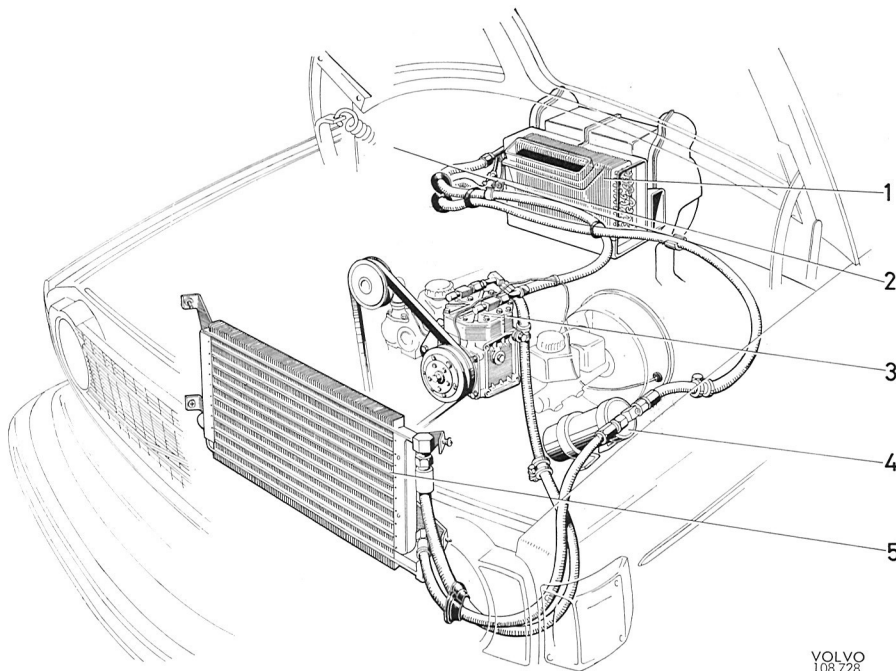

Fig. 8-47. Cooling system
The cooling system in the unit is of the compressor type, which means that the refrigerant is circulated by a compressor. The system is divided up into the following main components: condenser (5, Fig. 8-47), compressor (3), drier (4), thermostatic expansion valve (2) and evaporator (1). The evaporator and expansion valve are placed in front of the heater system cell assembly inside the passenger compartment and the other components in the engine compartment.